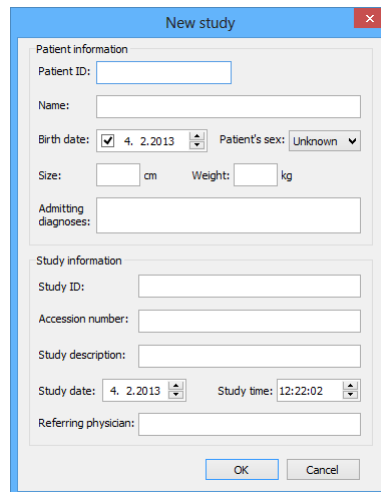

Figure 362 – New study dialog
2. Fill the information concerning the new study into the **New study** dialog (see Figure 362) and click the **OK** button. The **New series** dialog then opens.